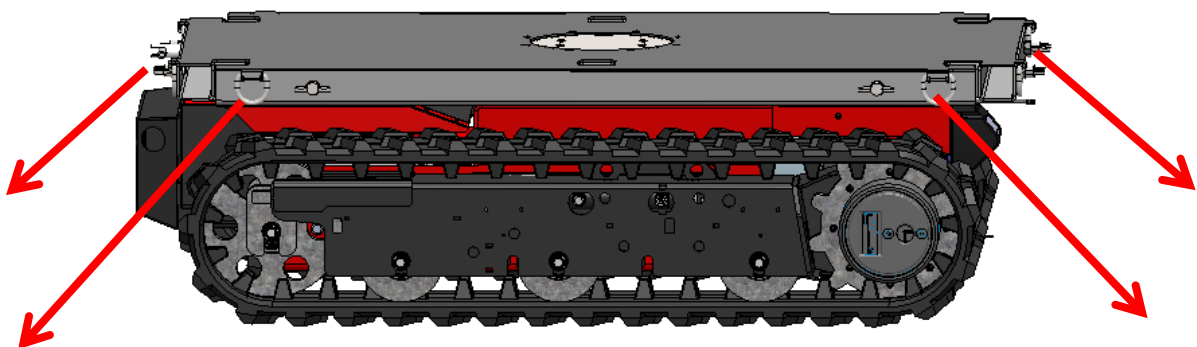

Figure: 25
- Towards the front and sides, lash down at least 0.5x the machine's weight; towards the rear lash down at least 1x the machine's weight (figure 25).